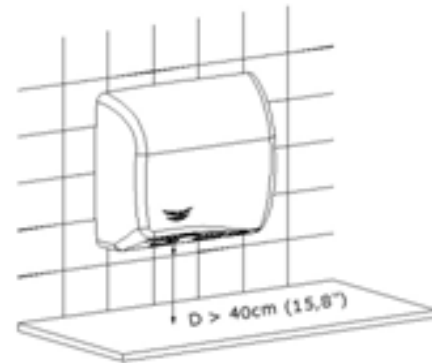

Fig. 10
6. Unscrew the screws in a counter-clockwise direction (CCW) using the supplied special tool (see figure 10).
NOTE: a minimum distance of 40 cm (15.8") must be allowed between any possible shelves, marble or washbasins (see figure 10). As far as possible, reflecting surfaces should be avoided within the operating range of the IR sensors.